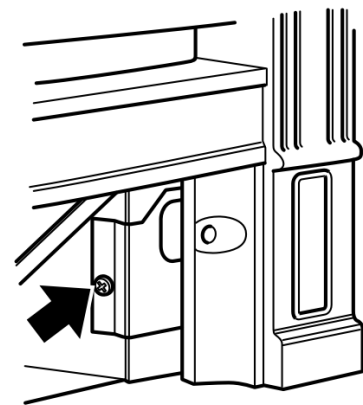

Figure 42. Securing screws (fascia may differ from that shown)
3. Remove the two screws securing the bottom of the fascia to the sides of the hotbox (See figure 42).